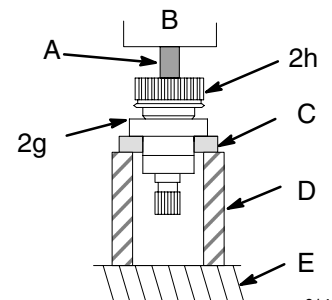

Fig. 16
4. **Using a hydraulic press**, place pieces of steel bar stock on the inner race of the large bearing (2g) and press the shaft through the hub and bearing. See Fig. 16.